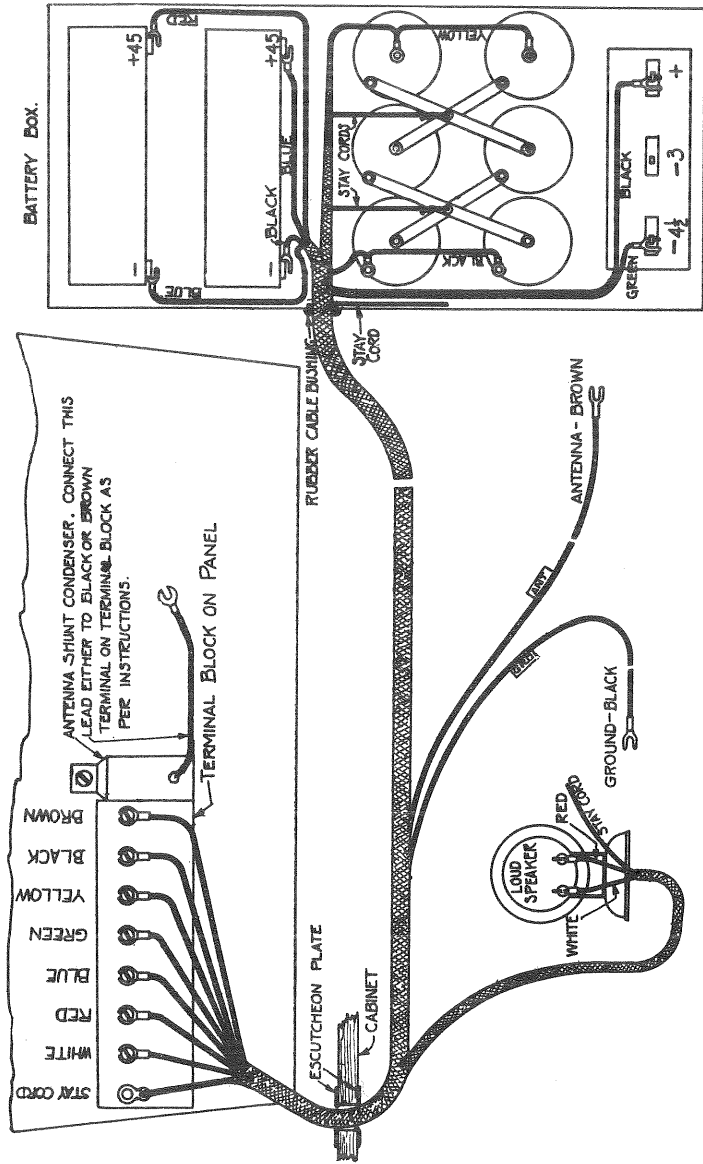

FIG. 4—CABLE CONNECTION OF RADIOLA IX LOUD SPEAKER AND BATTERY
If an indoor antenna of less than 40 ft. is used, the flexible lead on shunt condenser, Fig. 4, must be connected to the brown or antenna terminal on the terminal board of the Radiola IX. Should a longer or outside antenna be used, this flexible lead should be connected to the black, or ground terminal on the terminal board, which throws the condenser out of circuit.
The "A" batteries must be placed in the box with their terminals as shown in Fig. 4. Remove thumb screws and place special connector on batteries as shown. This connects the batteries in three series groups, of two cells each in parallel. The yellow leads are connected to the center or positive terminal of the "A" battery and the black leads to the outside or negative terminal.
The method of connecting the "B" battery is clearly shown in the diagram in the battery box, Fig. 4. The leads are sufficiently long to permit making the connection outside the box for convenience. Then the batteries should be placed in the box as shown, taking care that no terminals touch the box.
1. Be sure that set is properly connected, as per diagram, Fig. 4.